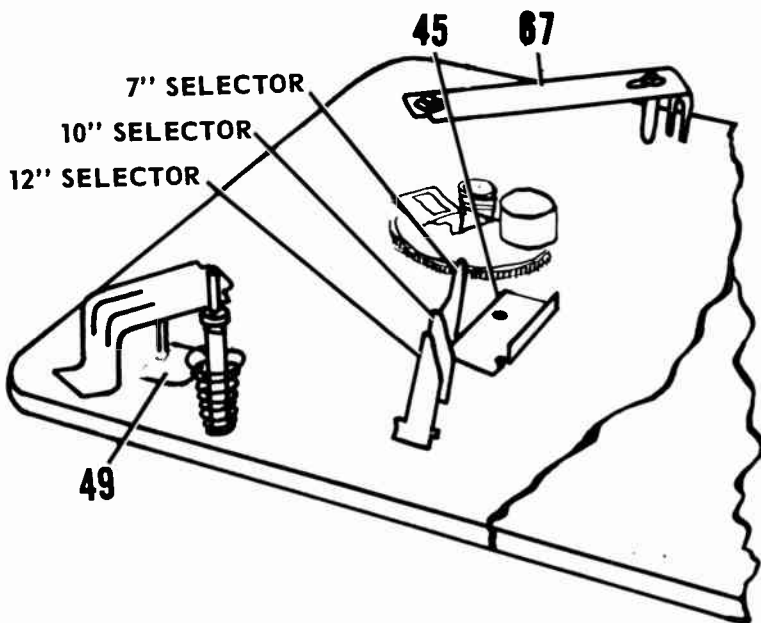

Figure P6.
ADJUSTMENTS (Figures P6, P7, P8)
1. Index 7" Records: (a) place 7" record on turntable, hold tone arm in reject grooves of record; (b) the trip arm 49 should be touching 7" selector. See figure P6; (c) loosen clamp screw in trip arm 49. Hold tone arm and move trip arm until trip arm touches 7" selector; (d) tighten clamp screw.
2. Index 10" Records, Also 12": (a) bend 10" selector (figure P6) out (toward edge of record) if record is to index tone arm away from edge; (b) bend 10" selector in toward spindle to make tone arm index toward spindle.
3. Index 12" Records: (a) bend 12" selector (figure P6) out (toward edge of record) if record is to index tone arm away from edge; (b) bend 12" selector in toward spindle to make tone arm index toward spindle.
SERVICE HINTS (Figures P6, P7, P8)
8. Tone Arm Sets Down Erratically: (a) clamp screw on trip arm 49 loose; (b) tone arm index misadjusted, see Index adjustment; (c) set down selectors bent, (1) straighten set-down selectors until they are perpendicular with base plate (Figure P6).